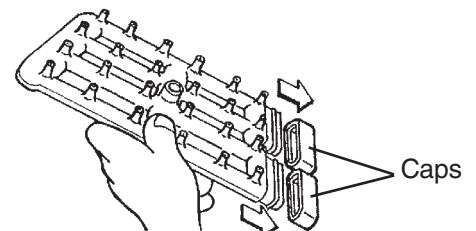

Fig. 41
8. Remove the two caps. See Fig. 41.